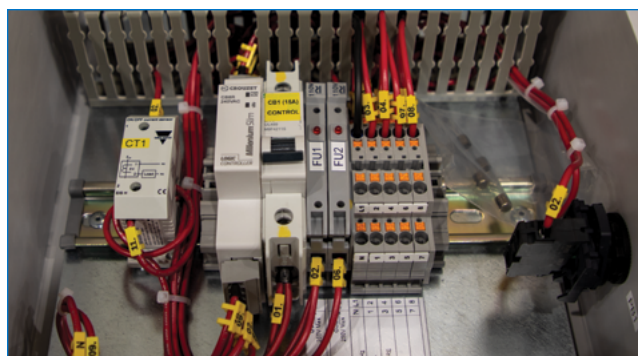

Figure 7. Control panel terminals
- 1) Connect each wire from the provided multi-wire cable to its associated terminal inside the control panel, using a tool to push onto the orange connection pins (Fig. 7). The wire's identification number is the same as its associated terminal (numbered 1 to 8).